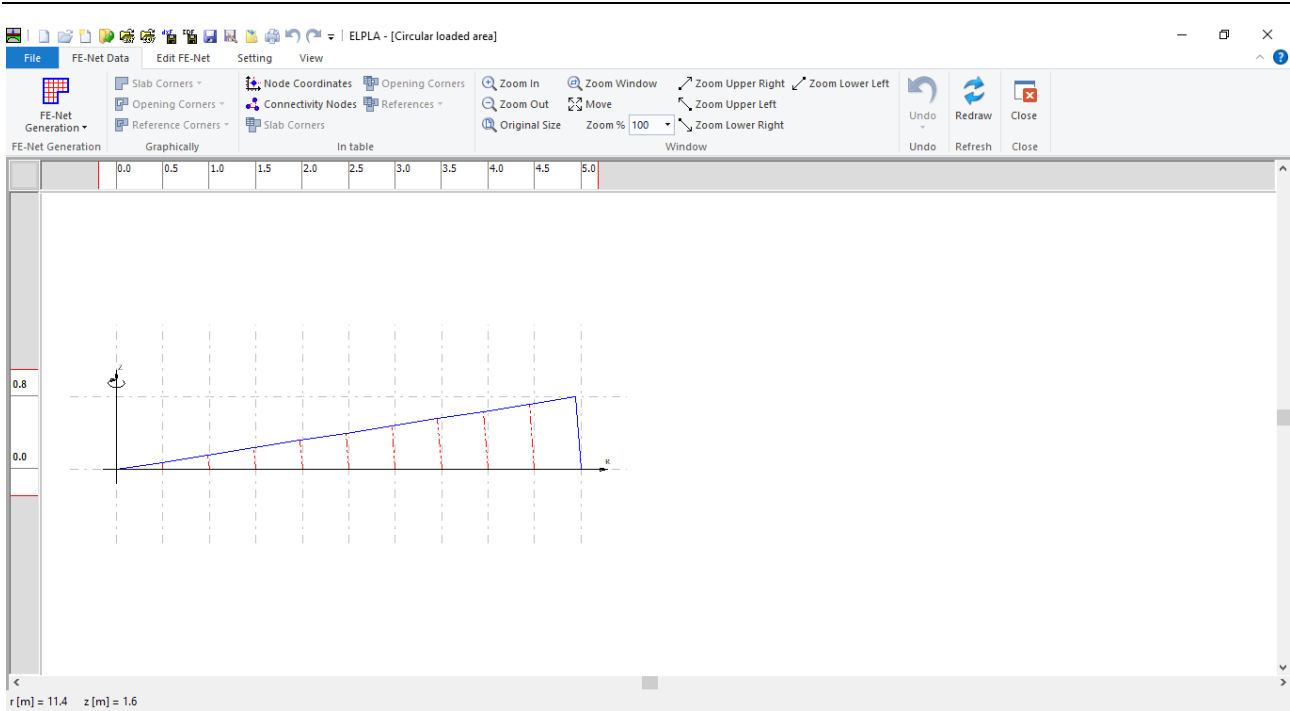

Figure 1.9 Generated FE-Net
*ELPLA* will generate a sector from the circular area with 10 circular elements. The following window in Figure 1.9 appears with the generated net.
- Choose "Save" command from "File" menu in Figure 1.9 to save the data of the FE-Net
- Choose "Close" command from "File" menu in Figure 1.9 to close the "FE-Net" window and return to *ELPLA* main window